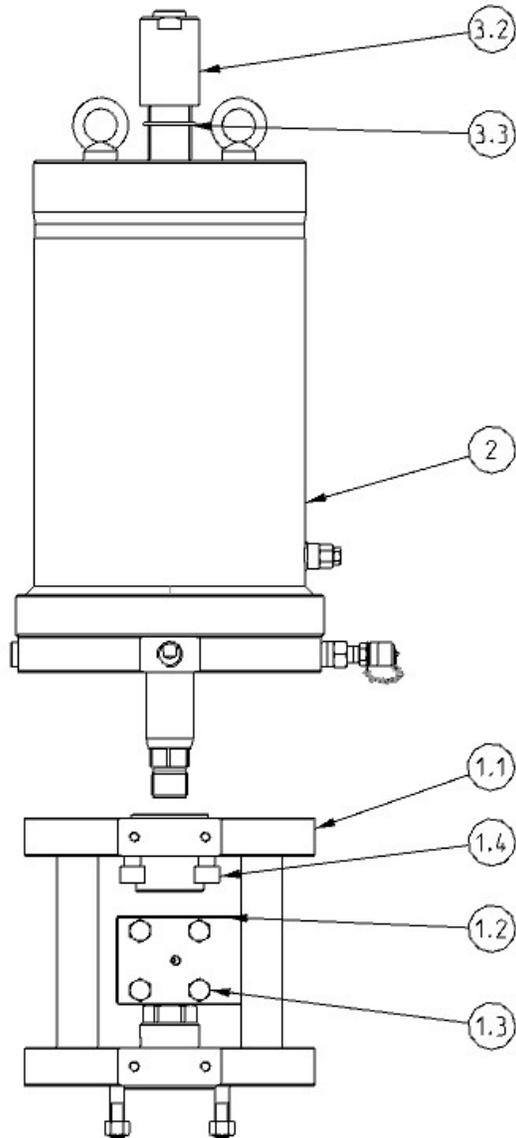

Fig. 6.1
Before unmounting the cylinder (2) it's necessary first of all disassemble the valve adaptation assembly (1.1) and the coupling joint (1.2) by unscrewing the screws (1.3) and (1.4) (fig. 6.1).
4) *Replacement of stopper protection seals (fig.6.1).*